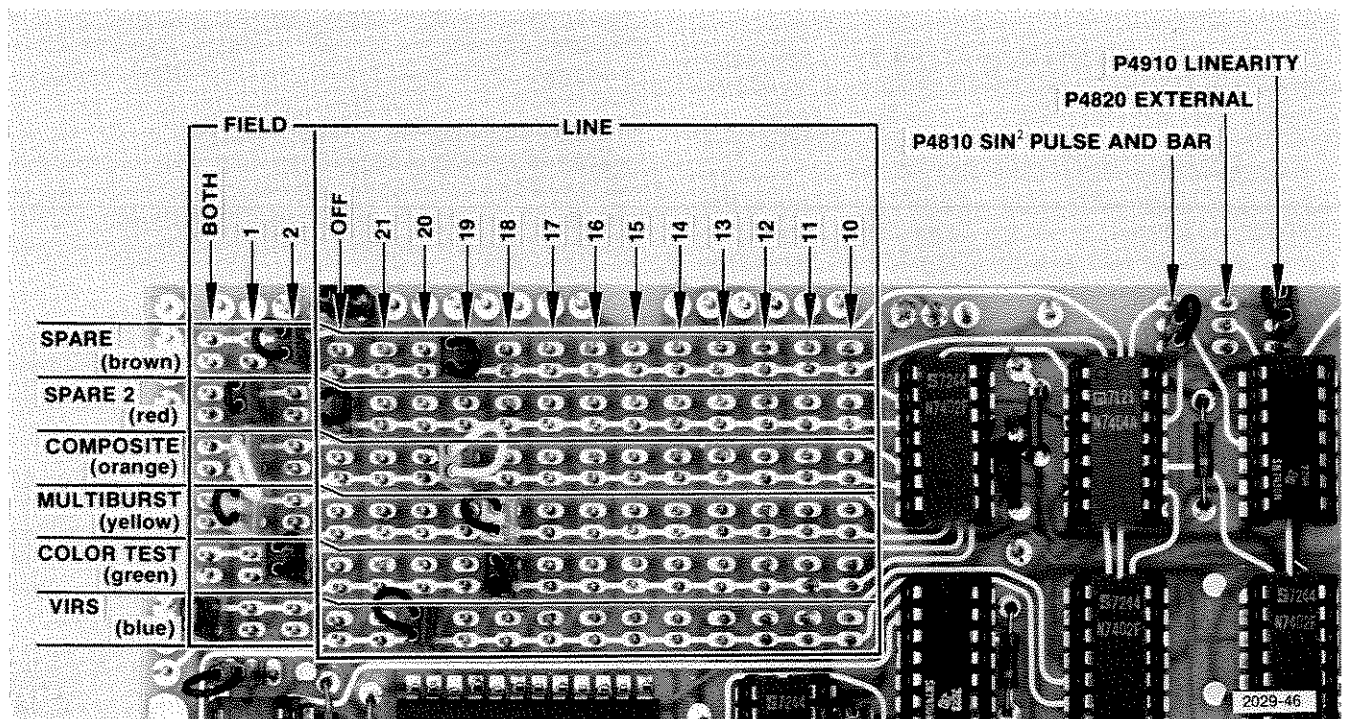

Fig. 1-14. VITS and FF circuit board location of VITS Line and Field selector plugs.
Referring to Fig. 1-14, notice that a rectangular matrix is used to select the line and field for each VIT signal. Two jumper plugs must be used to select the VITS; one for field selection, the other for line selection. To prevent or disable a particular VITS, move the line jumper plug to the OFF position.
SIN² PULSE AND BAR: Pins two (2) and three (3) of P4810 (see Fig. 1-14) must be connected.